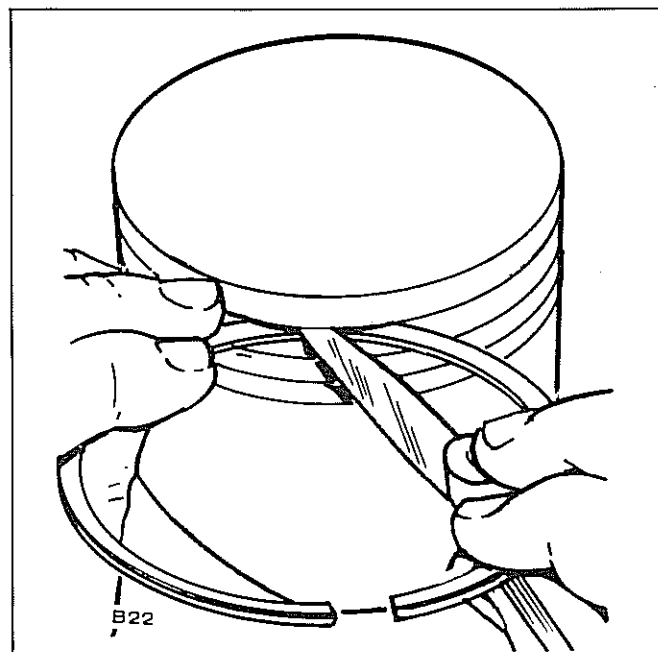

FIGURE 24. CHECKING RING SIDE CLEARANCE
- a. Inspect the pistons for fractures at the ring lands, skirts and pin bosses. Check for wear at the ring lands using a new ring and feeler gauge as shown in Figure 24. Replace the piston when the side clearance of the top compression ring reaches 0.004" (0.10 mm) on B43M and B48 (0.008" (0.20 mm) on BF and CCKA.